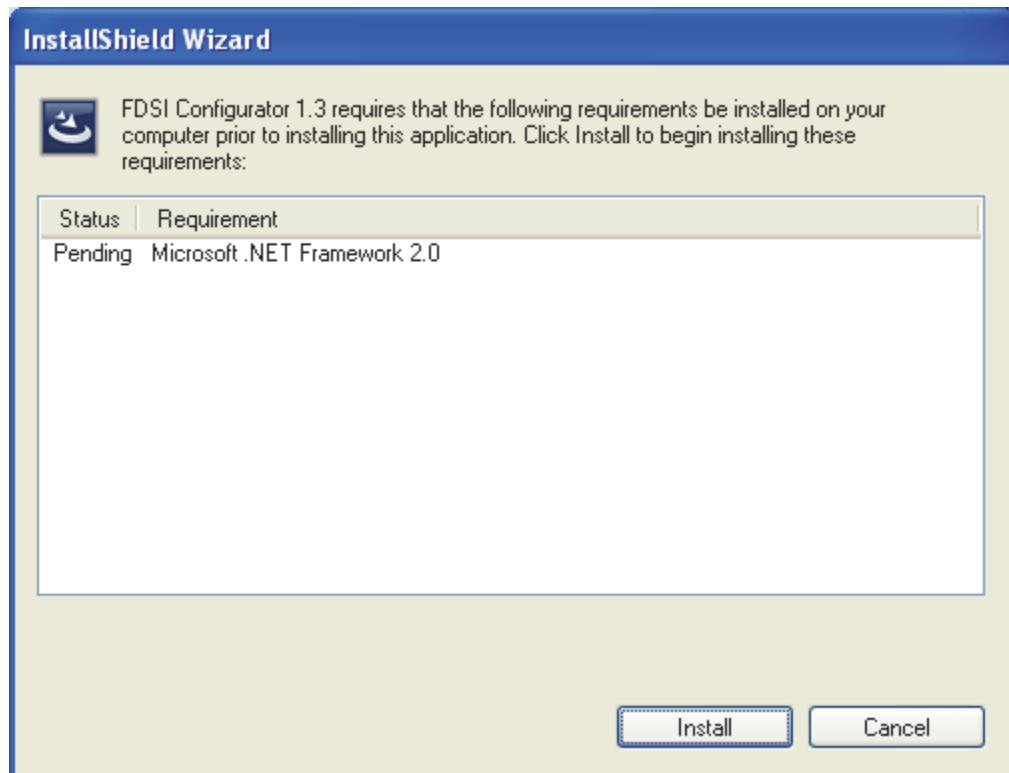

Figure 7-6. Installing Pending Requirements
4. If Microsoft .NET Framework 2.0 has not been previously installed or an older version of Microsoft .NET has been installed, the setup will ask you to install Microsoft .NET Framework 2.0. Figure 7-6 appears on your screen.